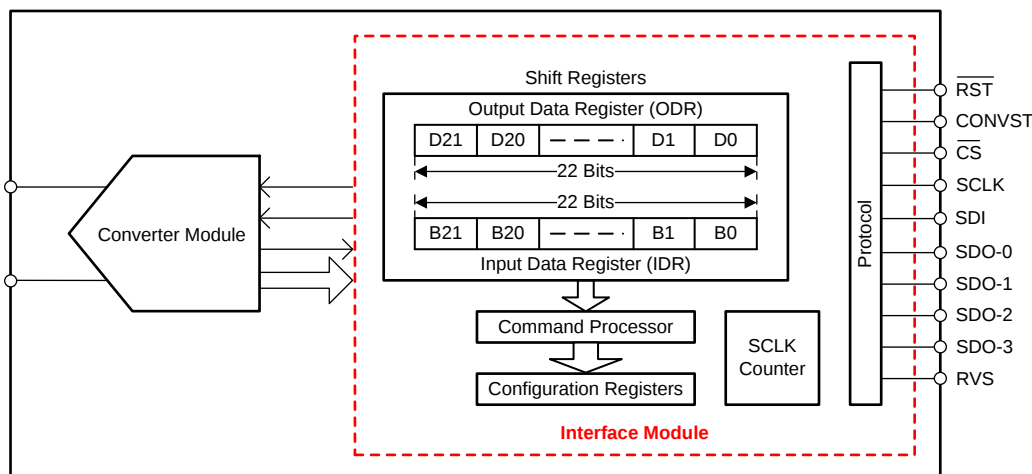
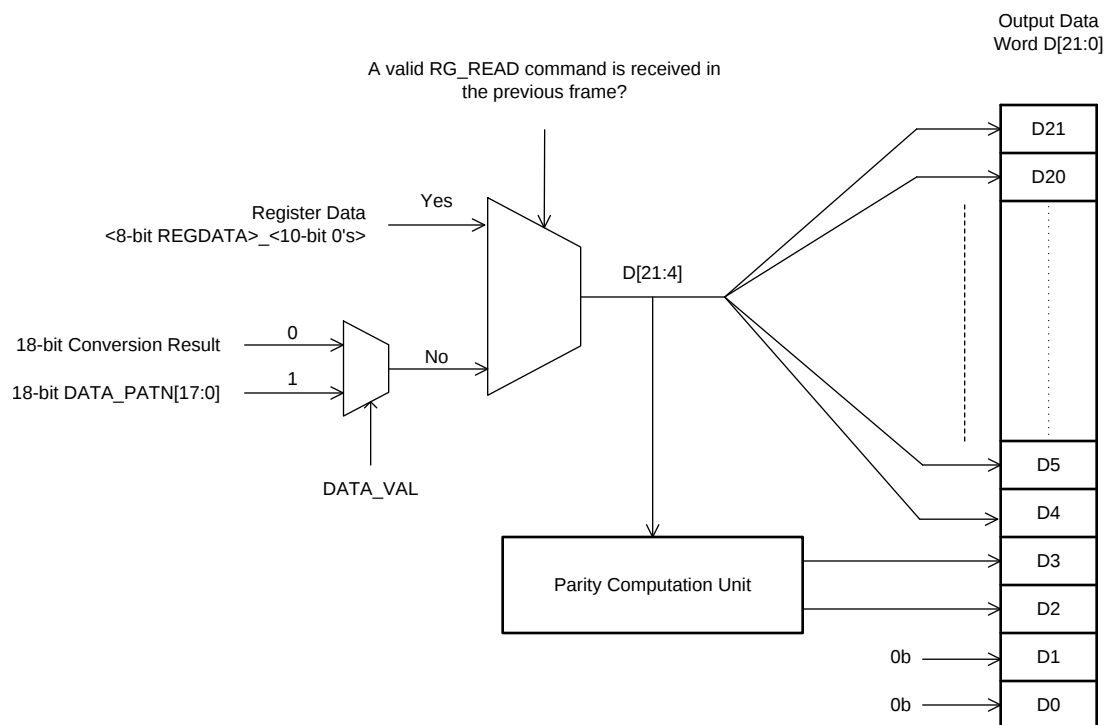
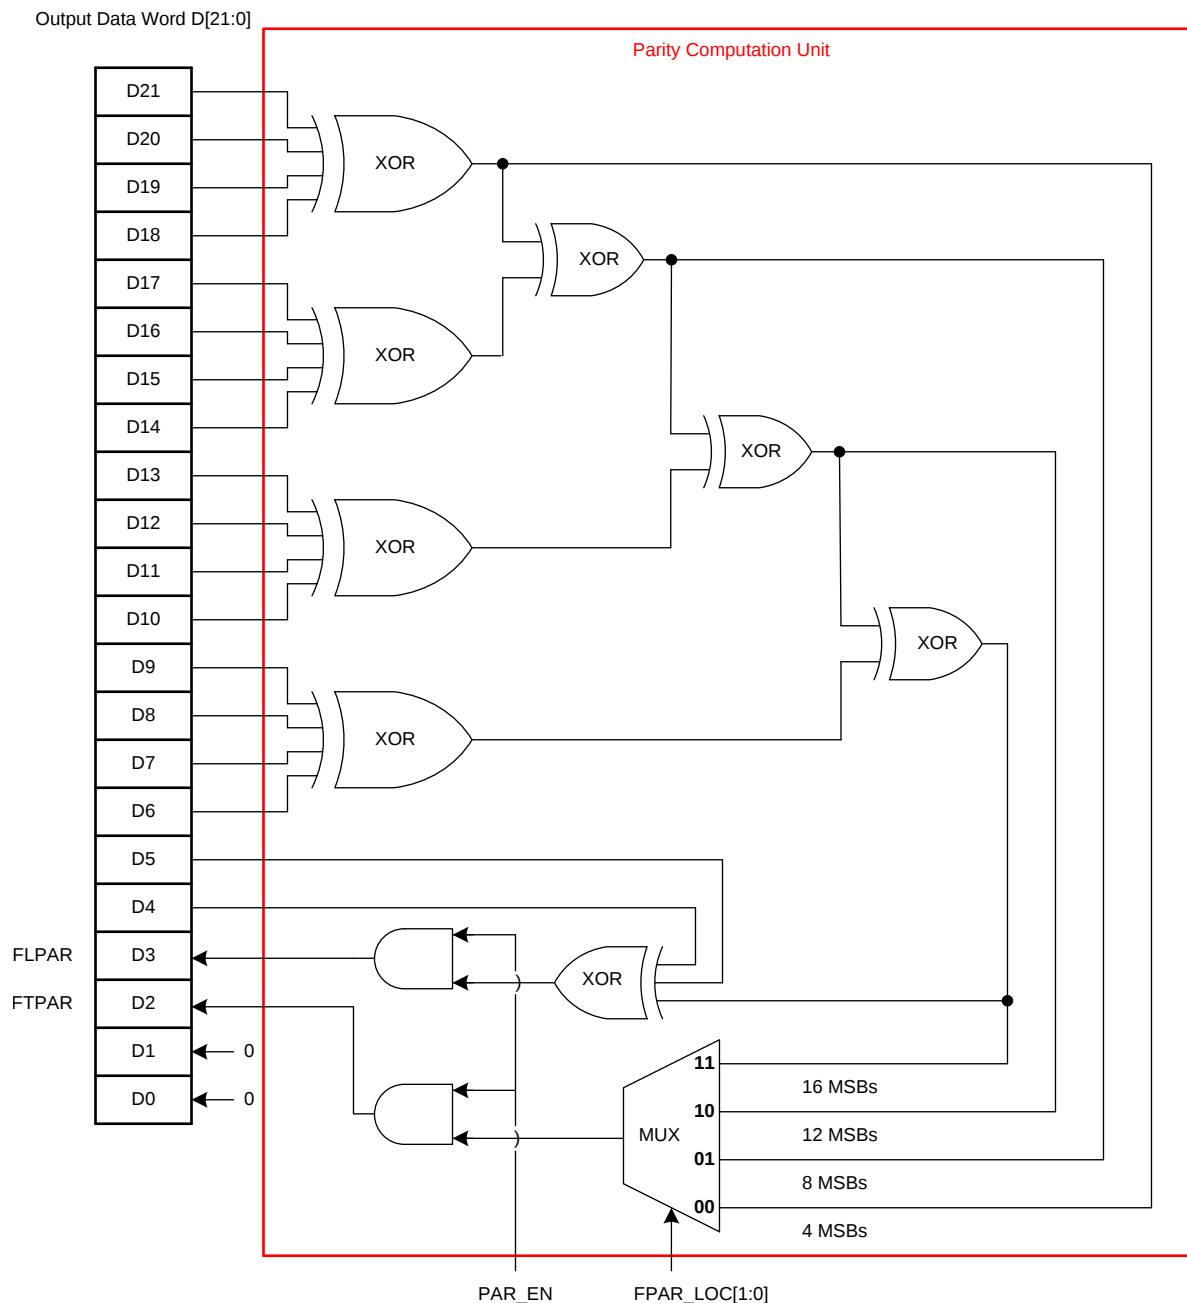
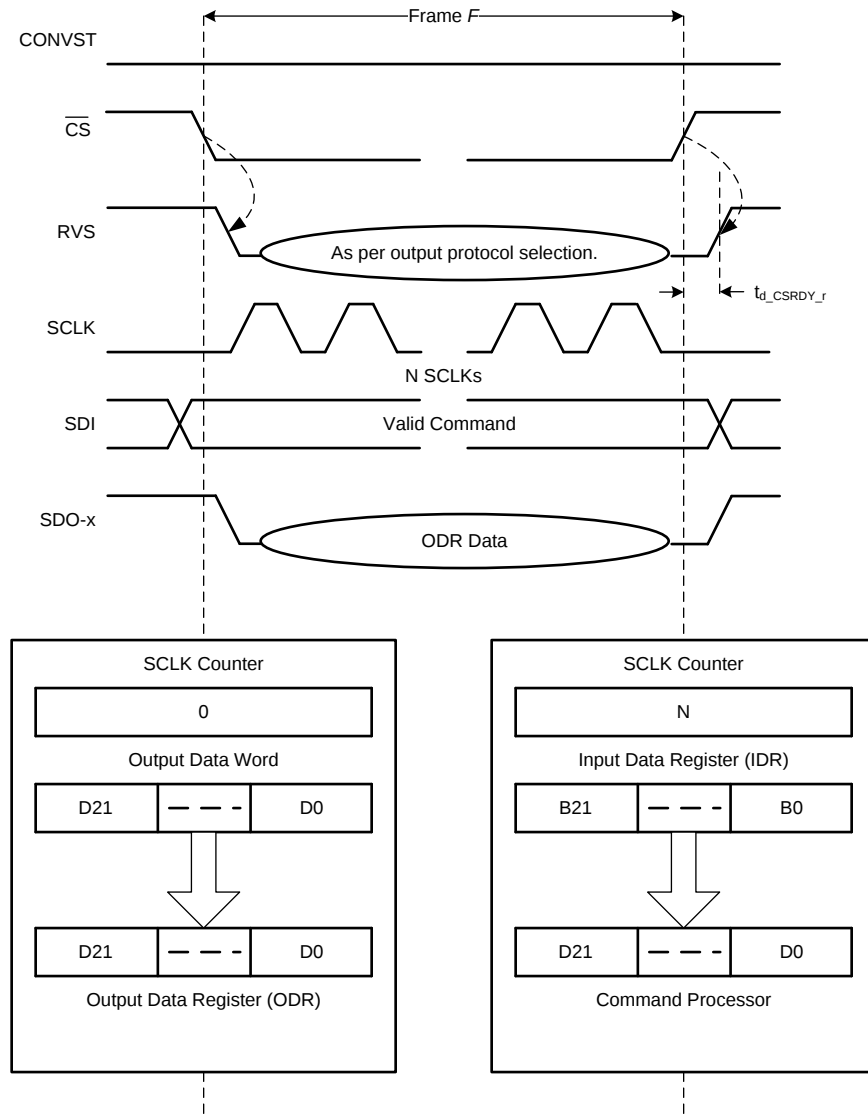

Figure 37. Interface Module
Figure 41. Output Data Word (D[21:0])
Figure 42. Parity Bits Computation
Figure 43. Data Transfer Frame
The interface module facilitates the communication and data transfer between the device and the host controller. As shown in Figure 37, the module consists of shift registers (both input and output), configuration registers, and a protocol unit.
Figure 41 shows the output data word. Figure 42 shows further details of the parity computation unit illustrated in Figure 41.
A data transfer frame between the device and the host controller is bounded between a $\overline{\text{CS}}$ falling edge and the subsequent $\overline{\text{CS}}$ rising edge. The host controller can initiate a data transfer frame (as shown in Figure 43) at any time irrespective of the status of the CONVST signal; however, the data read during such a data transfer frame is a function of relative timing between the CONVST and $\overline{\text{CS}}$ signals.
- The device takes control of the data bus. As shown in Figure 43, the 22-bit contents of the output data word (see Figure 41) are loaded in to the 22-bit output data register (ODR; see Figure 37).
- The 22-bit input data register (IDR; see Figure 37) is reset to 000000h, corresponding to a NOP command.
- As illustrated in Figure 43, the 22-bit contents of the IDR are transferred to the command processor (see Figure 37) for decoding and further action.
In a short command frame, the write operation to the device is invalidated; however, the output data bits transferred during the short command frame are still valid output data. Therefore, the host controller can use such shorter data transfer frames to read only the required number of MSB bits from the 22-bit output data word. As shown in Figure 41, an *optimal read frame* for the ADS891xB devices must read only the 18 MSB bits of the output data word. The length of an optimal read frame depends on the output protocol selection; see the Protocols for Reading From the Device section for more details.